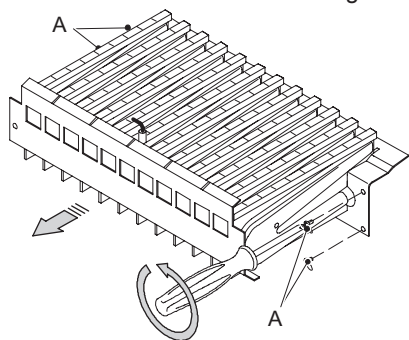

Figure 8.1
- Remove the front panel from the combustion chamber and the burner in Figure 8.1.
- Reassemble the burner Figure 8.1, the front combustion chamber panel and the